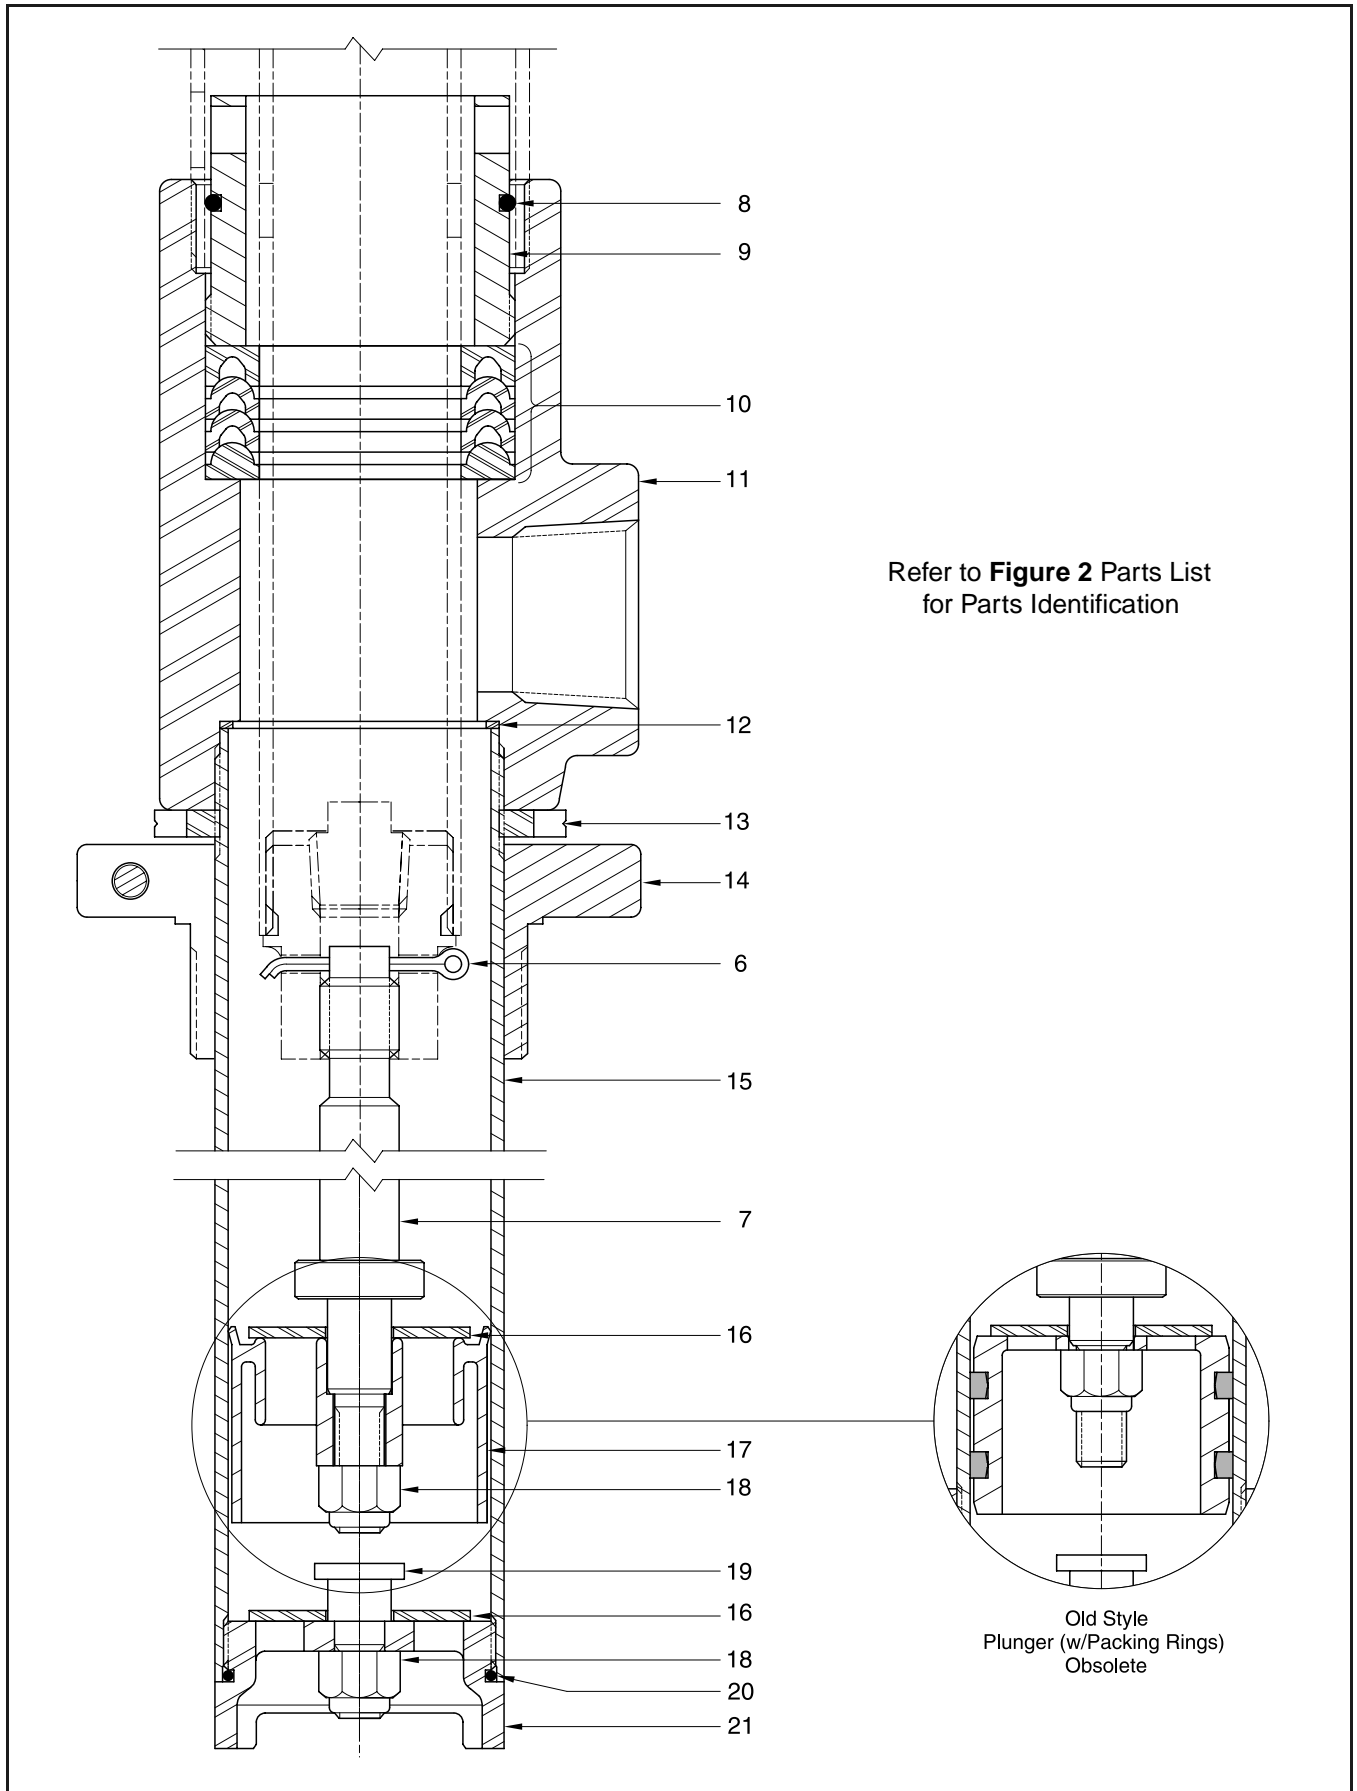

Figure 4 Pump Tube Assembly - Section View
*IMPORTANT: If the pump is equipped with a worn old style plunger and/or ring assembly (See **Figure 4**), make sure to also purchase the current Rod and Stop Assembly (7).*
3. Inspect Plunger (17) for wear.
4. Inspect bore of Cylinder (15) for any score marks.